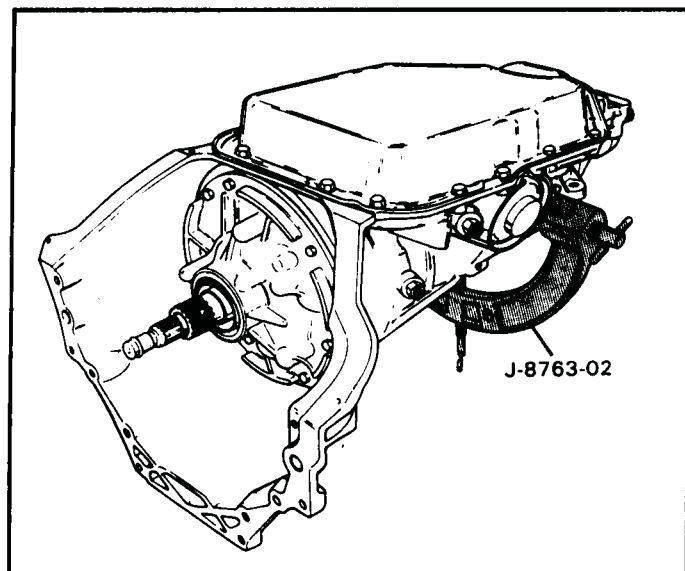

Figure 29
3. Install the transmission and fixture assembly in the bench fixture J-3289-20, and rotate so that the bottom pan is facing up (See Figure 29).